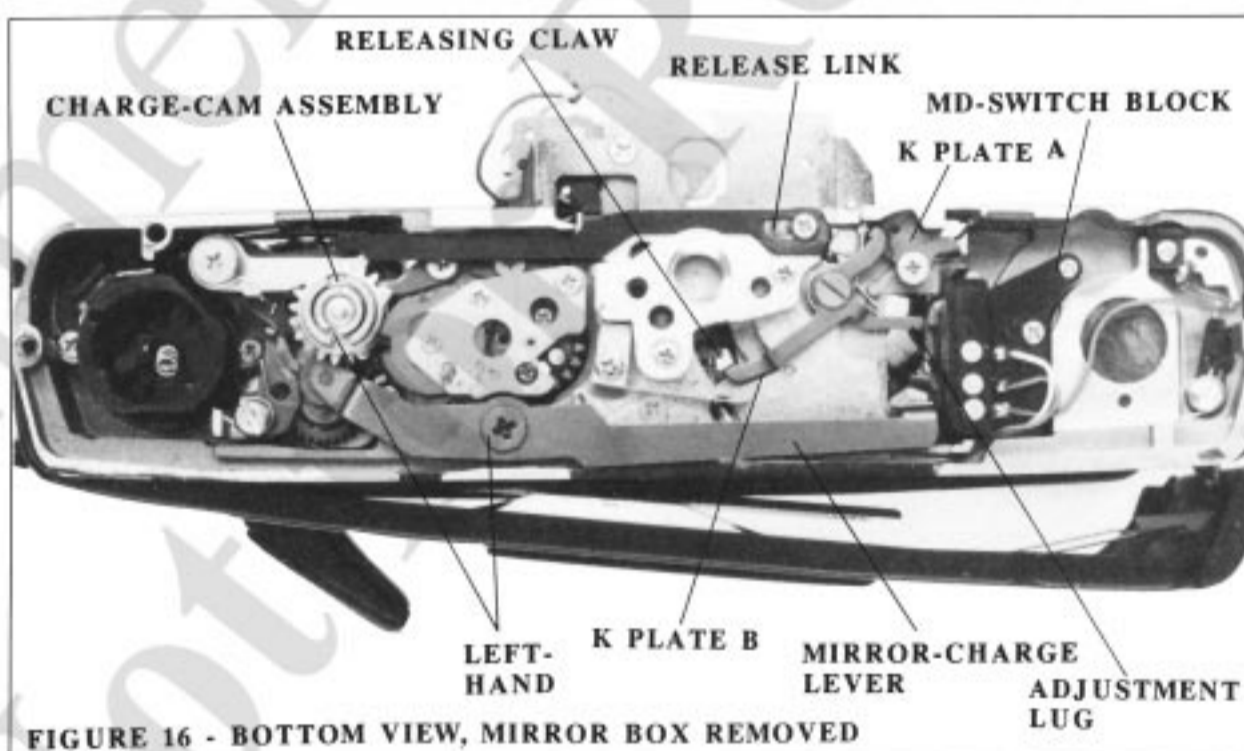

FIGURE 16 - BOTTOM VIEW, MIRROR BOX REMOVED
switch, bottom of camera, rewind side, Fig. 16. Closed with the back open, connecting the red-wire contact of the MD block to ground. Open with the back closed to disconnect the red-wire contact from ground.
Locations of left-hand threads: screw holding mirror-charge lever, screw holding charge-cam assembly, Fig. 16
3. Charge the shutter. The mirror box should be released with the mirror down. As you seat the mirror box, pass the shutter-release lever, Fig. 10, through the cutout in the body casting. Make sure the charge lever on the mirror box passes to the front of the curved end of the mirror-charge lever (bottom of camera, Fig. 16).